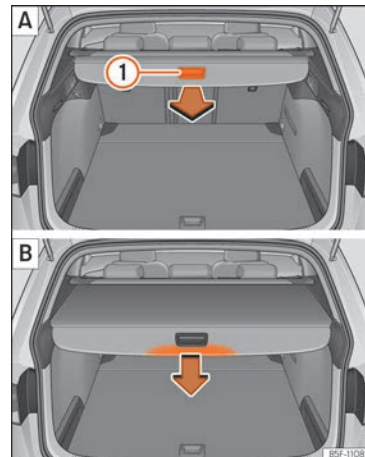

Fig. 173 In the luggage compartment: extend and retract the shelf.
- Pull evenly on the rear shelf using its handle »» Fig. 173 ① [A] in a backwards direction until it audibly clicks into place.
- Press on the handle of the rear shelf in the direction of the arrow to release it »» Fig. 173 ② [B].